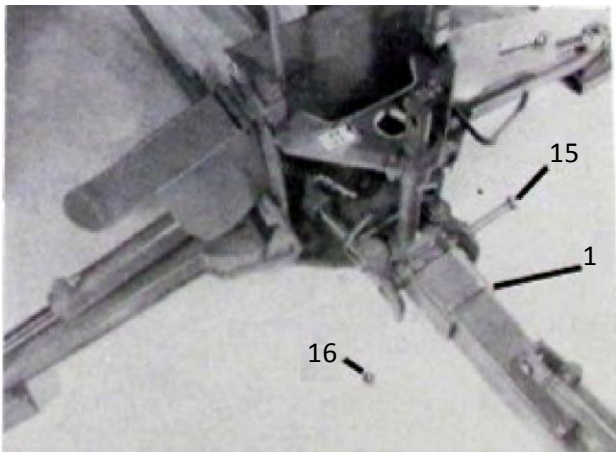

Fig. 2
(1) Remove the $\frac{3}{4}$ " x $10\frac{1}{2}$ " plated bolt (Item 15 in the main frame assembly) and $\frac{3}{4}$ " self-locking hex nut (Item 16 in the main frame assembly) from the yoke of the swing shaft. Position the base end of the main boom (Item 1) between the mounting ears (use two men or overhead hoist) and secure by re-inserting the $\frac{3}{4}$ " x $10\frac{1}{2}$ " plated bolt through the yoke ear and boom as shown in Fig. 2. The bolt should be seated (or locked) in the locking ring on the outside mounting ear of the yoke to prevent bolt from turning during operation. Fasten the bolt in place with the $\frac{3}{4}$ " self-locking hex nut, tightening for fit but not sufficiently to warp the yoke mounting ears.